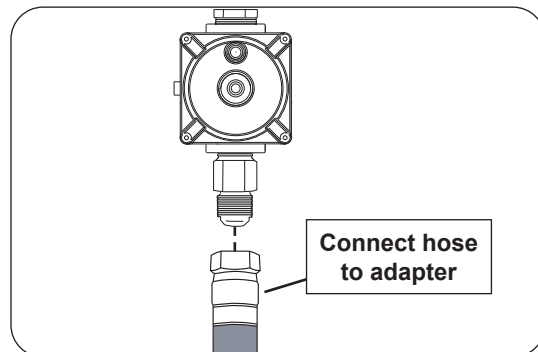

Fig. 3-4 Install quick connect hose
4. Connect the hose to the 1/2" flare fitting of the adapter that is attached to the regulator (see Fig. 3-4). Tighten securely.